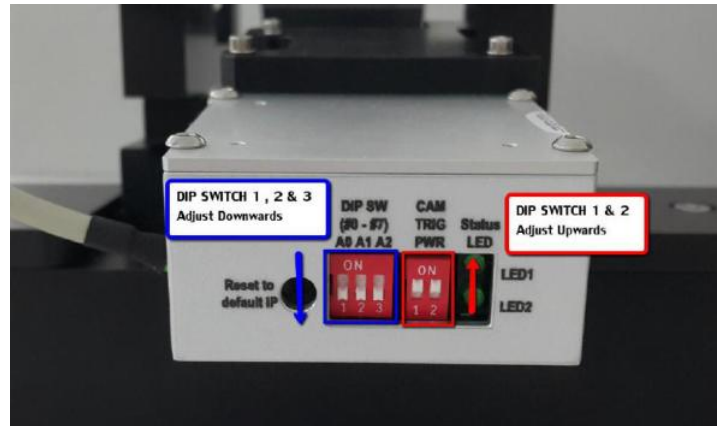

Figure 6 PSP 2 Front Projector DIP Switch DIP Switch Setting
1. Counter check the Front Projector DIP Switch Setting is adjusted as below Figure 6.